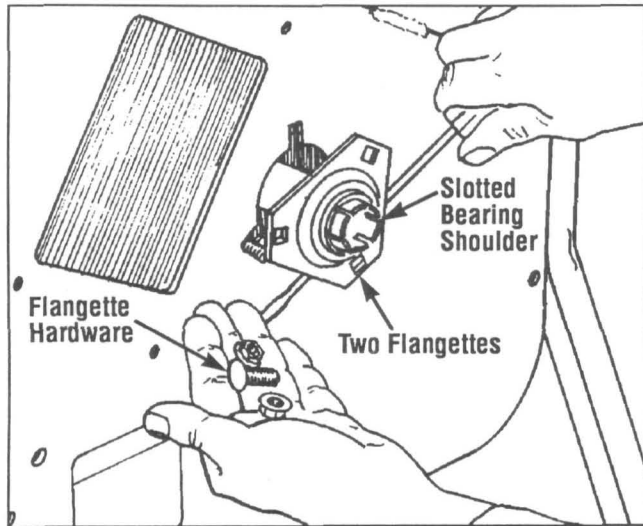

Fig. 11
On the chipper side of the main frame, use a 1/2" wrench to remove the three Whiz locknuts that secure the two triangle-shaped bearing flangettes to the main frame (see Fig. 11). While loosening the nuts, apply slight outward pressure to the nuts to prevent the screws from turning.
A. Note the position of the cylinder shaft relative to the hole in the shredder wall (see Fig. 11). The shaft must be centered vertically in the hole of the main frame. If it isn't centered, reposition the cylinder shaft by adjusting the length of the rope or twine that supports the cylinder assembly.